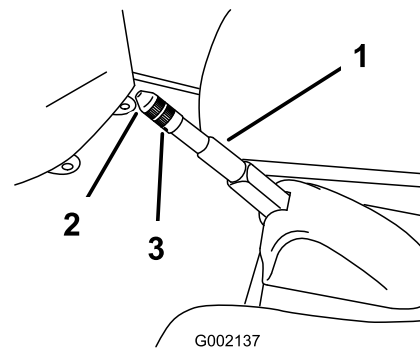

Figure 36
2. Loosen the set screw securing the knob to the parking brake lever (Figure 36).